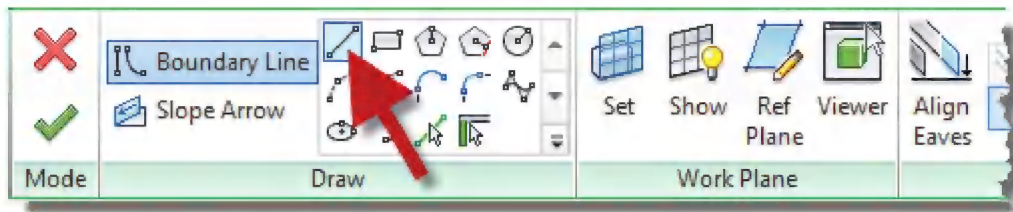

FIGURE 6-1.5 Ribbon: Roof tool active
17. Select the **Line** tool from the **Ribbon** (Figure 6-1.5).
23. With **Defines slope** checked in the *Options Bar* (Figure 6-1.5), pick the three exterior walls at the stair shaft.